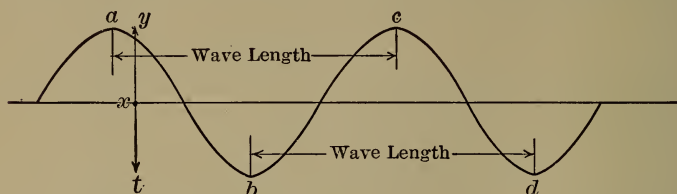

FIGURE 52.—CHARACTERISTICS OF A TRANSVERSE WAVE.
**74. Characteristics of Transverse Waves.**—In case of the waves in the water, in the grain, and in the rope, we find that, as the waves follow one another, parts of the material are *high* and other parts *low*. The high parts *a* and *c* (Figure 52) are called *crests*, while the low parts *b* and *d* are called *troughs*.